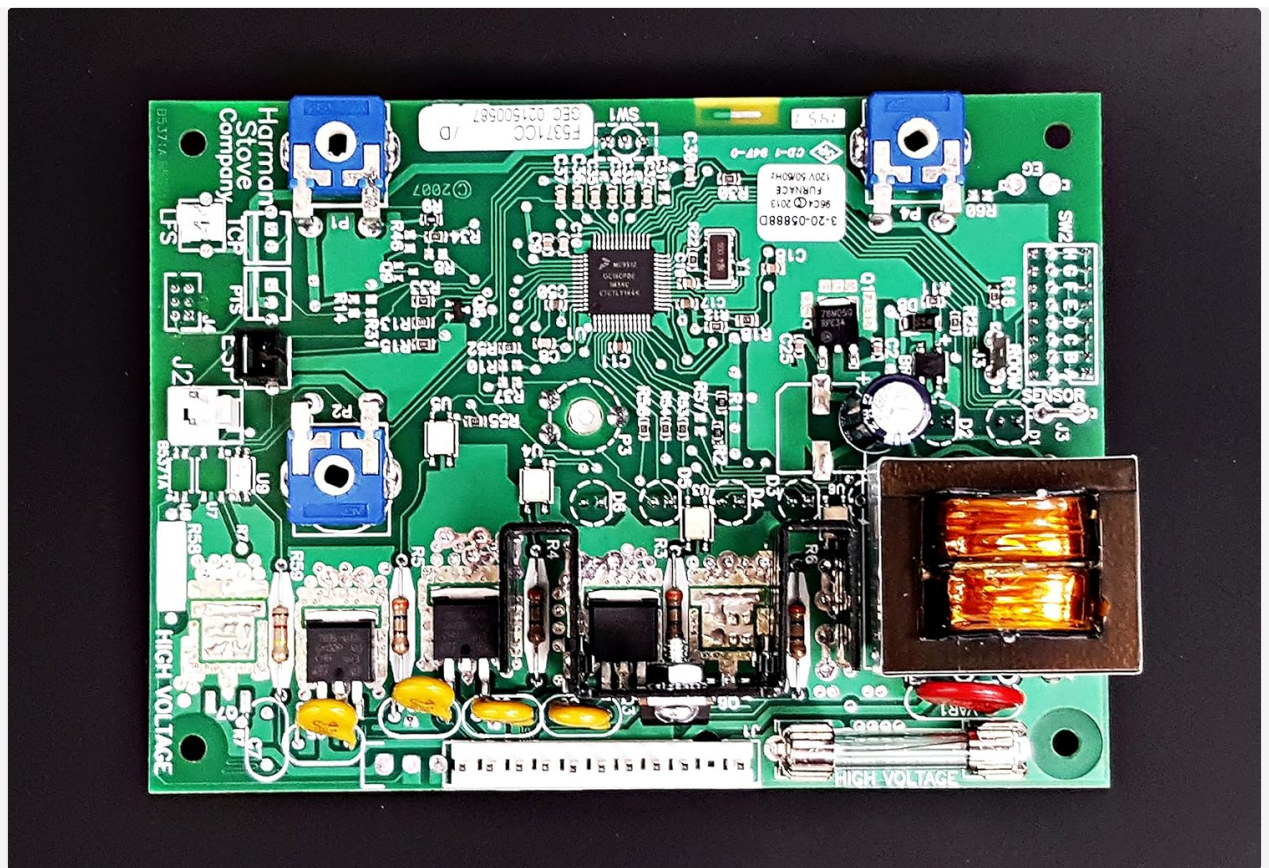
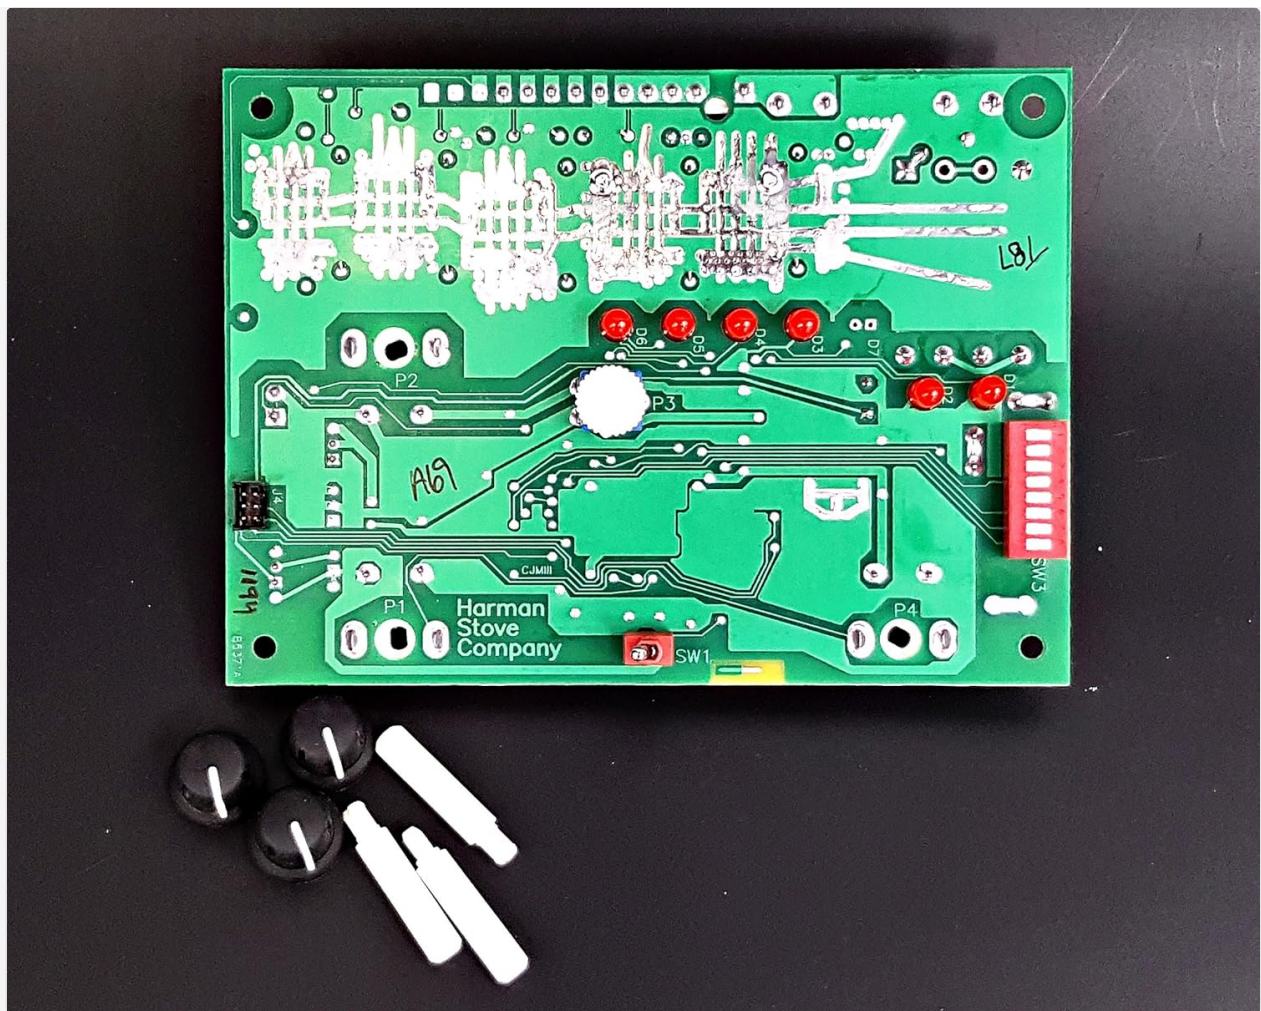

Figure 2: Detailed front view of the control board, highlighting various electronic components and connection terminals for wiring.
Figure 3: Rear view of the control board, illustrating the solder points and circuit traces. Note the SW3 DIP switch bank on the right side.
8. **Initial Settings:** Some control boards may have adjustable potentiometers (blue components in Figure 2) or DIP switches (red component labeled SW3 in Figure 3) for initial calibration or model-specific settings. Consult your stove's specific manual for correct settings for your PF100 or PF120 model.
3. **Inspect Fuses:** The control board may have onboard fuses (visible in Figure 2). With power disconnected, check these fuses for continuity using a multimeter. Replace any blown fuses with the correct type and rating.